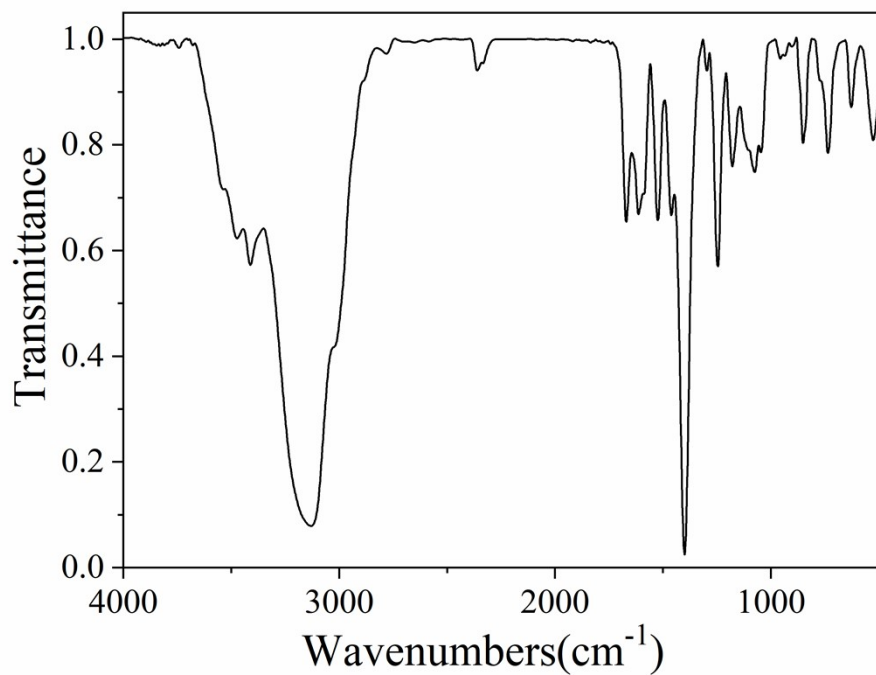

Figure S7. The FTIR spectrum of L2.
7. **Figure S7.** The FTIR spectrum of **L2**.